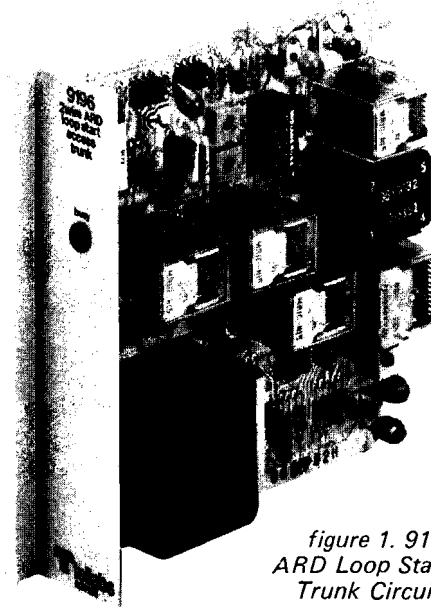

figure 1. 9196 2Wire
1.01 The Tellabs 9196 2Wire ARD Loop Start Access Trunk Circuit Module (figure 1) is designed specifically for use in the Tellabs 291 and 291R Conference/Alerting Systems. In the 291 System, it can be used in place of the Tellabs 9192 2Wire ARD Conference Access Trunk Circuit Module and/or the 9195 2Wire ARD Remote Answer Trunk Circuit Module in applications where the System interfaces a CO or PBX that cannot provide ground-start or sleeve-lead control of line circuits. In either System, the 9196 provides automatic conference origination and/or remote conference access. *The 291 and 291R Conference/Alerting Systems are 2-wire multistation ringdown conference systems designed for emergency reporting and business conference applications. The Systems provide simultaneous conference access to up to 30 local stations from either a dedicated master telephone or any local telephone via a listed directory number.*